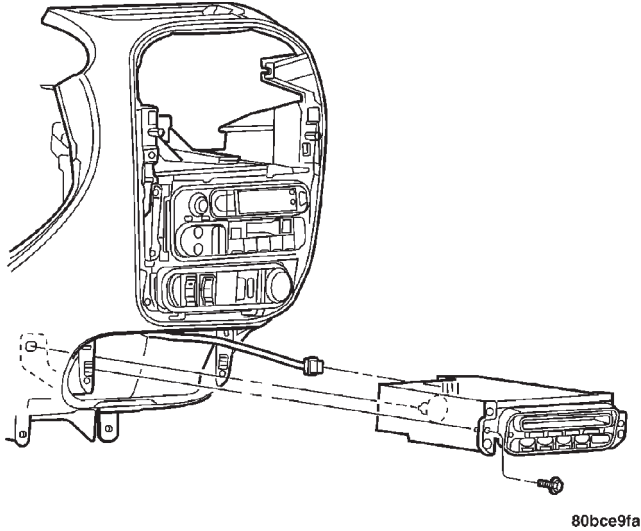

Fig. 4 CD Changer Remove/Install
(3) Remove two retaining screws to CD changer (Fig. 4).
(4) Pull CD changer out of instrument panel and disconnect harness connector from rear of changer (Fig. 4).